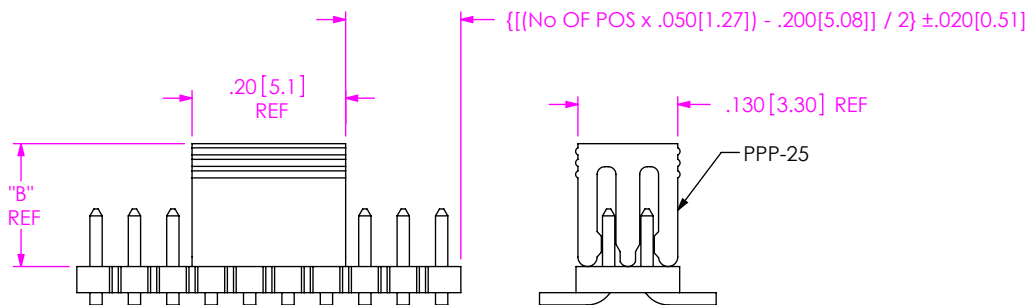
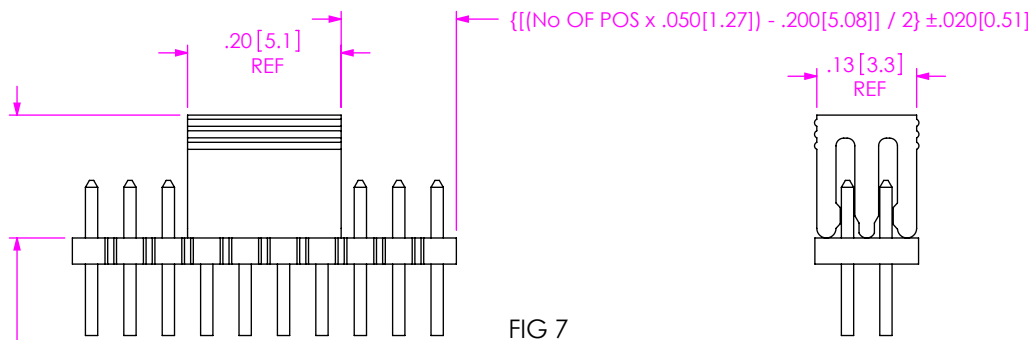

FIG 5
FIG 7
- P: PICK AND PLACE PAD (USE PPP-25) (AVAILABLE ON POSITIONS 04 THRU 50) (SEE FIG 5, SHT 2 & FIG 7, SHT 3) (USE PPP-25-NT FOR TAPE & REEL)